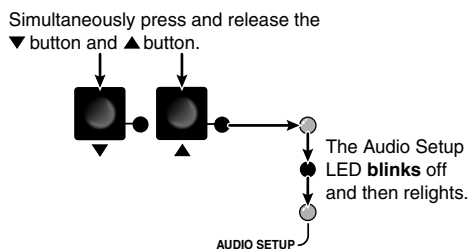

Figure 3-37 — Reset the selected input level
- Press and release the ▼ and ▲ buttons simultaneously (figure 3-37).